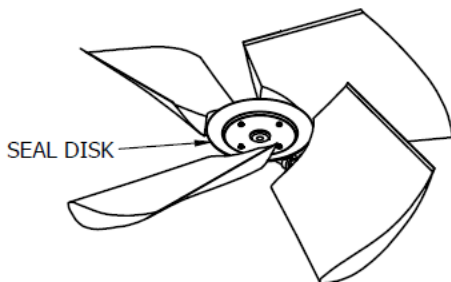
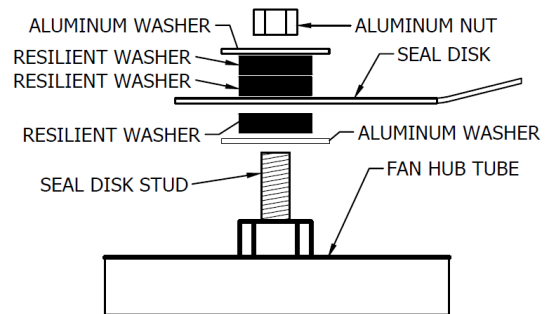
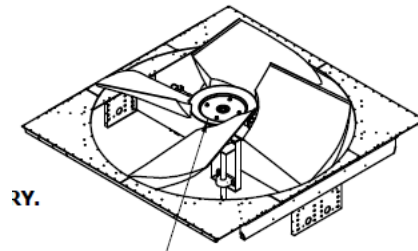

Figure 36: Seal disk
Figure 37: Seal disk hardware detail
Figure 45: Replacing seal disk
1. The center seal disk, shown in **Figure 36**, must be removed before the lifting slings are attached to fan blade shanks. Note the assembly orientation of the seal disk hardware for reassembly and remove it according to the seal disk hardware detail in **Figure 37**. If there is not enough clearance on the seal disk stud or not enough resilient or aluminum washers, the resilient washer can sit directly on the bottom nut without an aluminum washer in between. One resilient washer above the seal disk is acceptable.
- Replace the fan seal disk per **Figure 45** and tighten the nuts until the rubber seal washer compresses to the diameter of the flat washer. See the seal disk hardware detail in **Figure 37**.